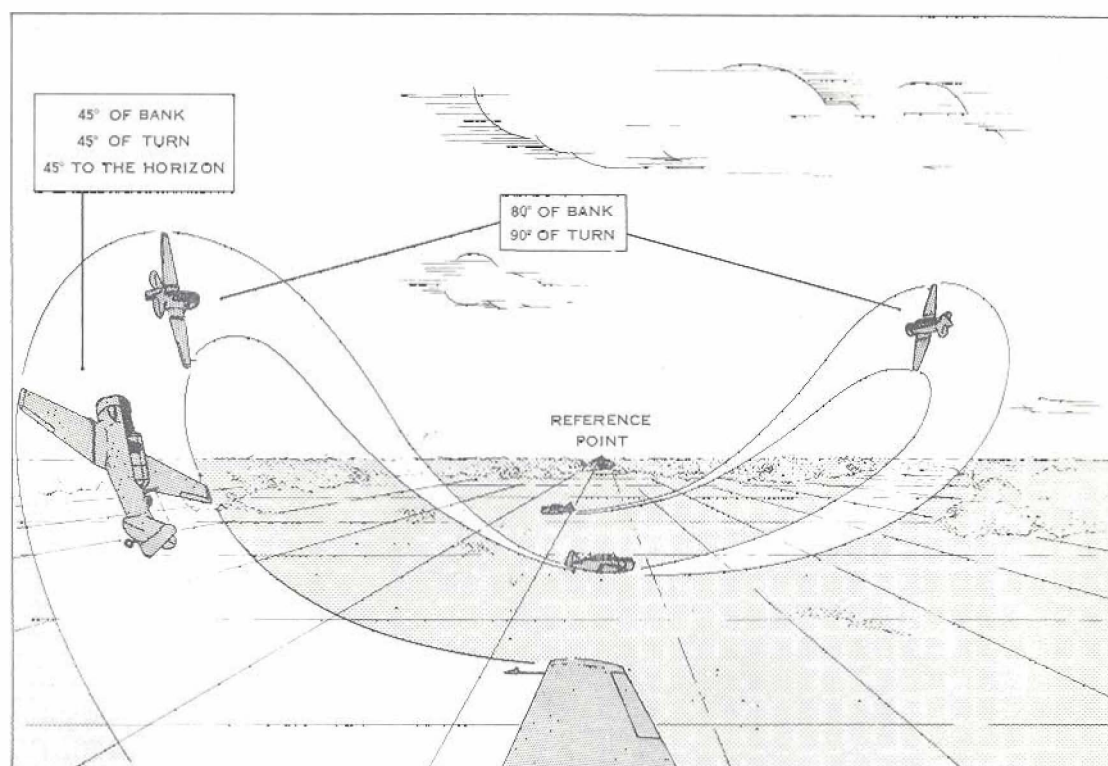

Figure 2: The Lazy Eight
(5) As the nose passes through the reference point, you must start to decrease the bank and increase the back pressure so that, at the lowest pitch attitude of 45 degrees below the horizon, the aircraft is banked at 45 degrees and has turned through 135 degrees. Continue raising the nose and rolling off the bank until, at the horizon, the wings are level and the aircraft has turned through 180 degrees. As the airspeed increases on the way down in the descending turn, the yaw to the left gradually disappears, but the effect of aileron drag remains as long as aileron is being applied. The correct amount of rudder pressure must be used throughout, to keep the manoeuvre co-ordinated. The only place where the wings are level is at the 180 degree point and, here, the reference point is on the opposite wing tip. In addition, the airspeed should be back to the original reading at which the exercise was started.
(6) The wings should not be allowed to remain level at the 180 degree point, since the lazy eight is only half finished. (Figure 2) Immediately, you should start a climbing turn in the direction of the reference point and complete the second half of the manoeuvre, as described in paragraphs 3, 4 and 5.